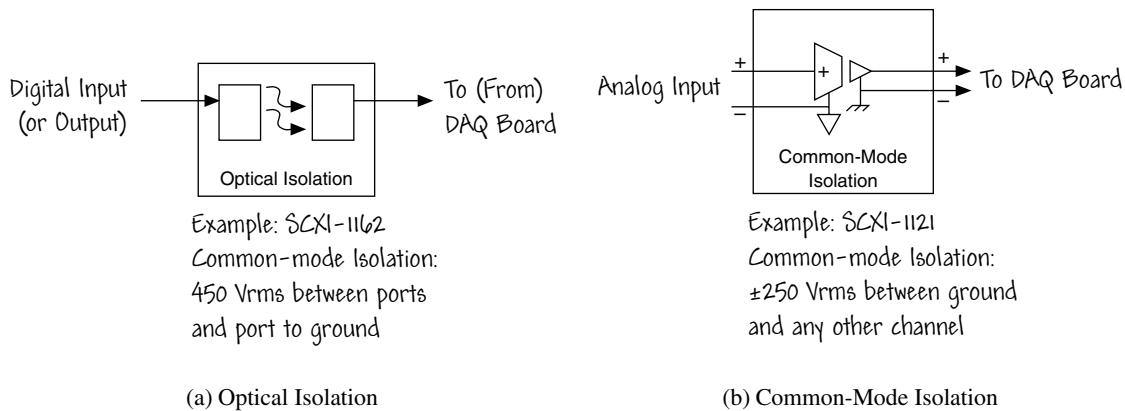

FIGURE 8.15
- **Isolation:** Another common use for signal conditioning is to isolate the transducer signals from the computer. For example, when the signal being monitored contains large voltage spikes that could damage a computer or harm a person, you should not connect the signal directly to a DAQ board without some type of isolation. Figure 8.15 shows two common methods for isolating signals.